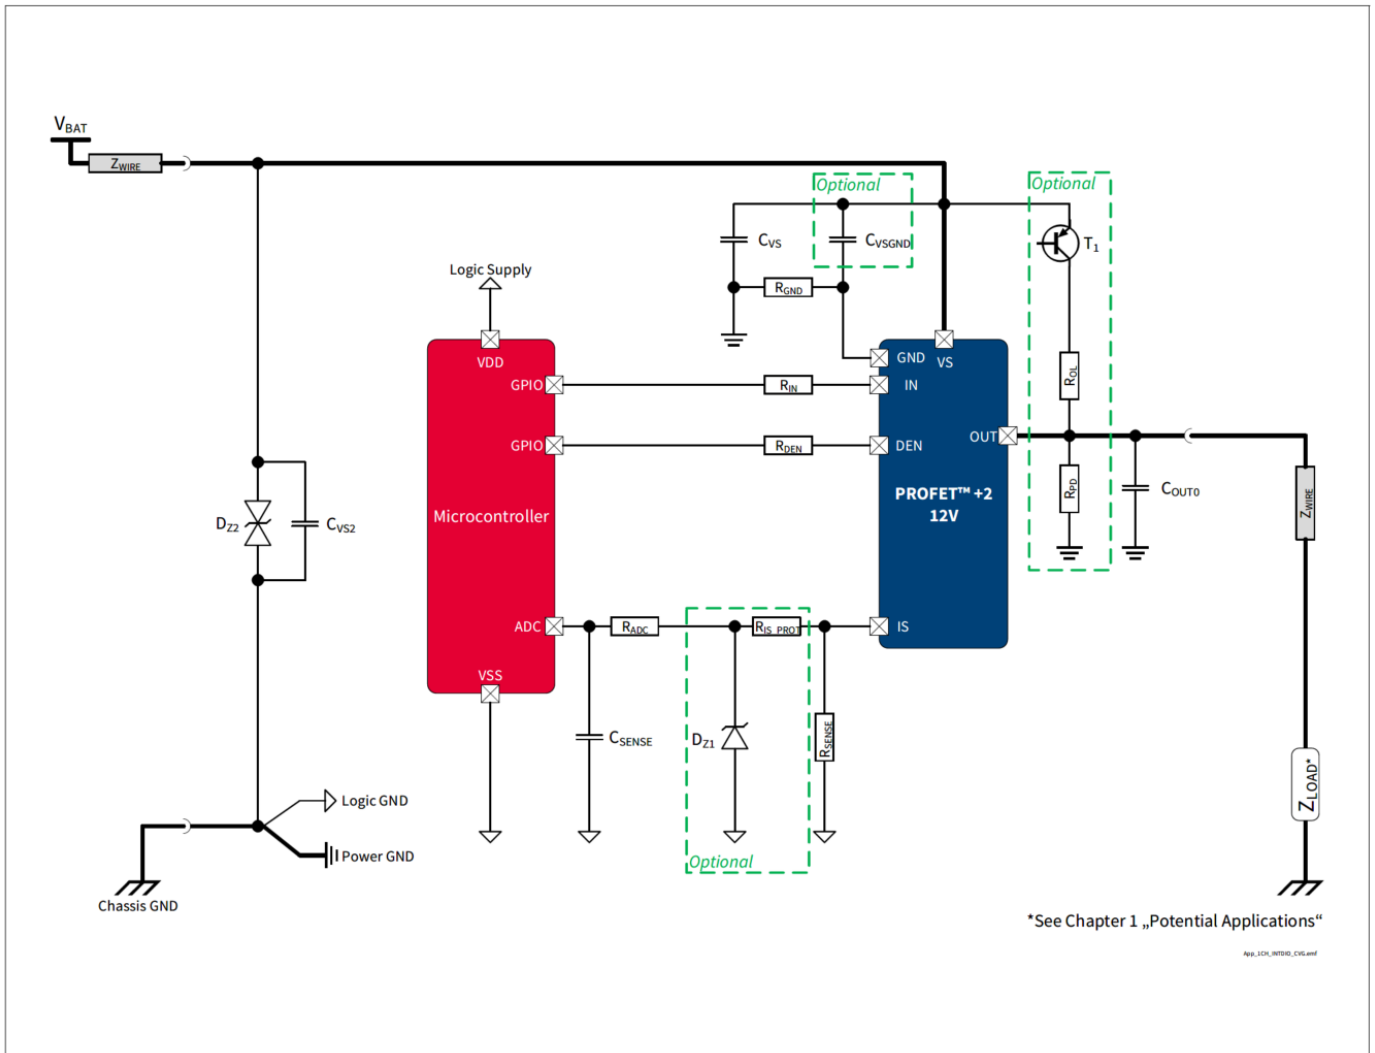

Figure 42 BTS7012-1EPA Application Diagram
1.02, 2019-10-15	<p>P_8.7.3.1, P_8.7.3.7, P_8.7.3.8 updated (added in Note or Test Condition: link to Figure 25) P_7.5.3.4, P_7.5.3.5 updated (added in Note or Test Condition: DEN = “low”; link to Figure 19)</p> <p>P_7.5.3.12 updated (added in Note or Test Condition: see Figure 21; deleted unnecessary space in Symbol: $dV_{OUT} / dt \rightarrow dV_{OUT} / dt$)</p> <p>P_8.7.3.6 updated (added in Note or Test Condition: see Figure 26) P_9.7.3.1 updated (added in Note or Test Condition: See Figure 34) P_9.7.3.6 updated (Min./Typ./Max.: -45%/4800/+45% \rightarrow -34.0%/4875/+34.0%) P_9.7.3.9 updated (Min./Typ./Max.: -38%/4800/+38% \rightarrow -25.0%/4875/+25.0%)</p> <p>P_9.7.3.12 updated (Min./Typ./Max.: -34%/4800/+34% \rightarrow -22.5%/4875/+22.5%)</p> <p>P_9.7.3.15 updated (Min./Typ./Max.: -22%/4800/+22% \rightarrow -12.5%/4875/+12.5%)</p> <p>P_9.7.3.17 updated (Min./Typ./Max.: -9%/4800/+9% \rightarrow -7.7%/4875/+7.7%)</p> <p>P_9.7.3.19 updated (Min./Typ./Max.: -6%/4800/+6% \rightarrow -4.5%/4875/+4.5%)</p> <p>P_9.7.3.21 updated (Min./Typ./Max.: -5%/4800/+5% \rightarrow -4.0%/4875/+4.0%)</p> <p>P_7.5.3.11 updated (added in Note or Test Condition: see Figure 19) P_4.2.3.6 updated (Max.: 12 mJ \rightarrow 15 mJ)</p> <p>Figure 1, Figure 42 updated</p> <p>Chapter 1 updated (or LED equivalent \rightarrow or equivalent electronic loads (e.g. LED modules)) P_4.3.0.7 added</p> <p>Table 23 updated</p> <p>Chapter 5.1 updated (added: see Chapter 10 for the complete application setup overview)</p>